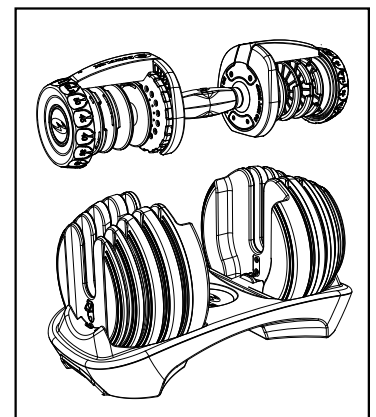

Figure 2
5. With both adjustment knobs set to 2, pull the handle straight up from the dumbbell. This will remove only the handle from the base, and let all of the weight plates stay in the base (Fig. 2). The handle without plates gives the initial weight of 2 kg (5 lbs).